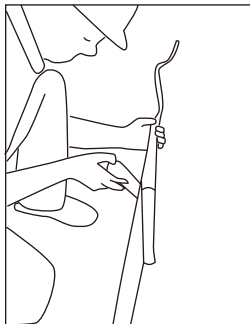

Fig. 5
6. To prolong the life of the Grips secure conductors and Grips together with tape. Keep Grips clean by reversing the first layer of tape with the sticky side up then reverse the taping with the sticky side down (Fig 5).